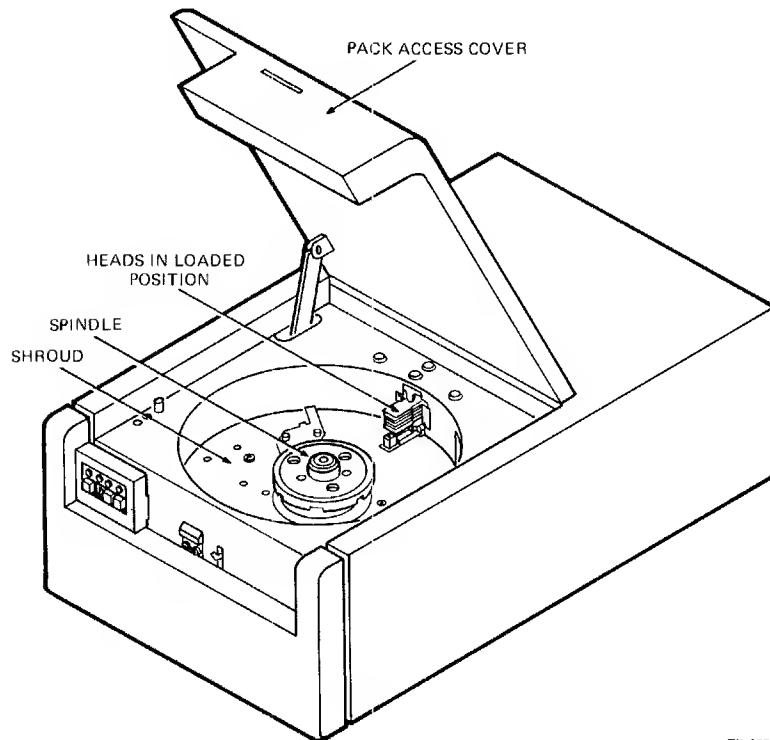

Figure 5-16 Pack Access
2. Raise the pack access cover and ensure that the heads are fully retracted (Figure 5-16).